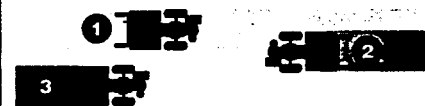

Figure 4-8
- If the garden size will not permit lengthwise and then crosswise tilling, then overlap the first passes by one-half a tiller width, followed by successive passes at one-quarter width (see Figure 4-8).